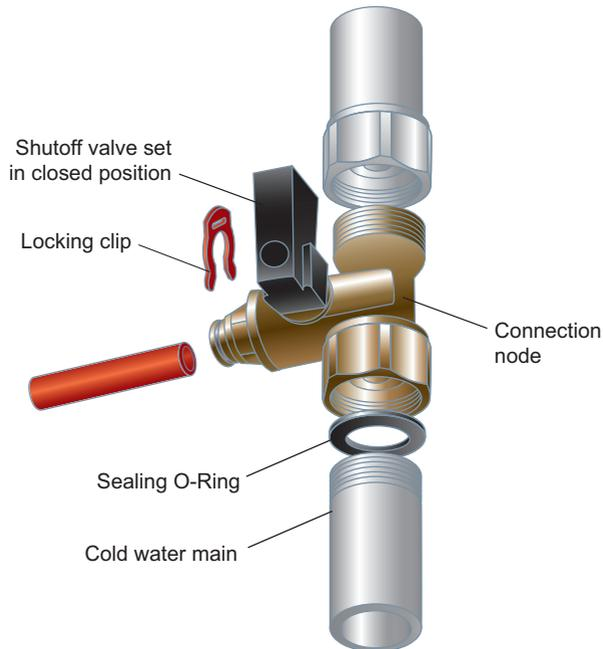

Figure 5. Connection node installation scheme
- Set the shutoff valve on the connection node into the closed position, as shown on figure 5.